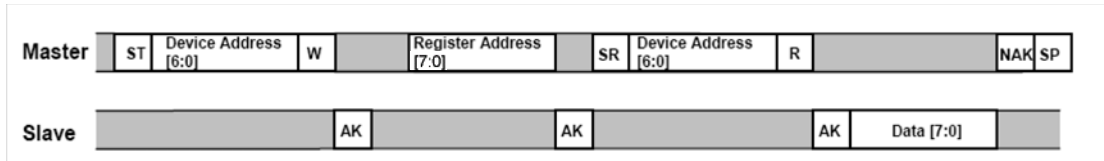

Figure 7. Single Byte Read - The Master is reading one address from the MMA7456L
The MMA7456L has a 10-bit ADC that can sample, convert and return sensor data on request. The transmission of an 8-bit command begins on the falling edge of SCL. After the eight clock cycles are used to send the command, note that the data returned is sent with the MSB first once the data is received. Figure 7 shows the timing diagram for the accelerometer 8-bit I²C read operation. The Master (or MCU) transmits a start condition (ST) to the MMA7456L, slave address (\$1D), with the R/W bit set to "0" for a write, and the MMA7456L sends an acknowledgement. Then the Master (or MCU) transmits the 8-bit address of the register to read and the MMA7456L sends an acknowledgement. The Master (or MCU) transmits a repeated start condition (SR) and then addresses the MMA7456L (\$1D) with the R/W bit set to "1" for a read from the previously selected register. The Slave then acknowledges and transmits the data from the requested register. The Master does not acknowledge (NAK) it received the transmitted data, but transmits a stop condition to end the data transfer.